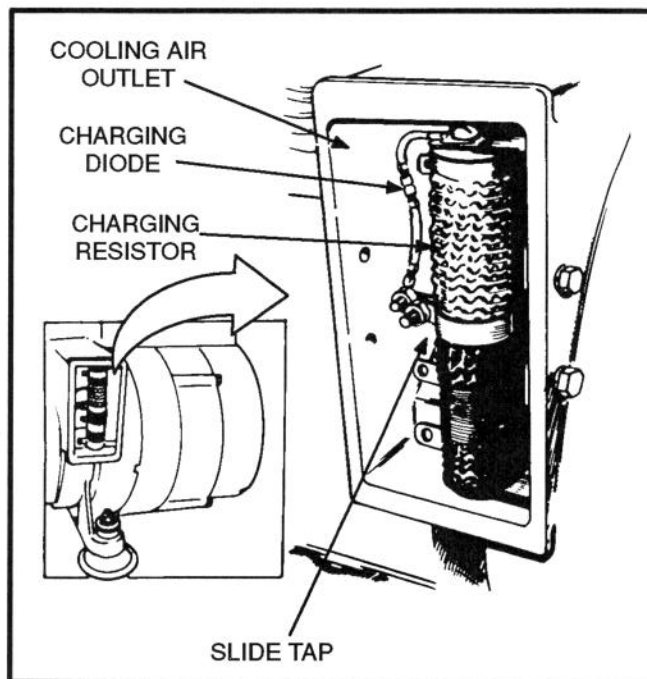

FIGURE 5-2. BATTERY CHARGE RATE RESISTOR (R21) LOCATION
1. The slide tap on adjustable resistor R21 (see Figure 5-2), should be set to give about 2 amperes charging rate. For applications requiring frequent starts, check battery charge condition (specific gravity) periodically, and if necessary, increase charging rate slightly (slide tap nearer ungrounded lead) until it keeps battery charged. Having engine stopped when readjusting avoids accidental shorts. Avoid overcharging.